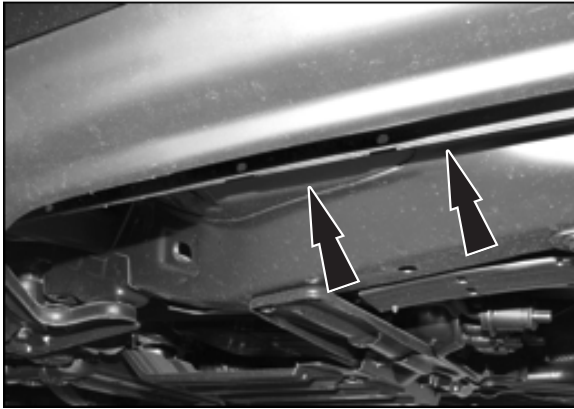
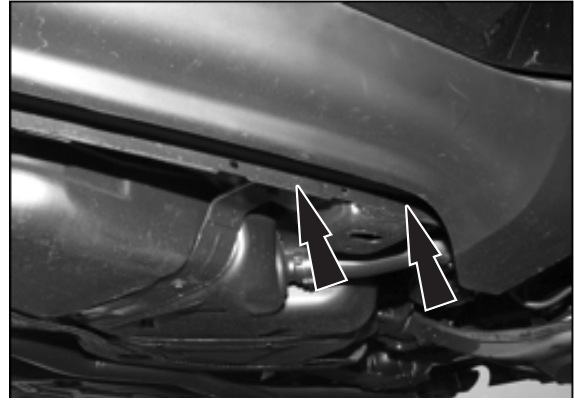

Fig. 1 Driver side front mounting location pictured.
Fig. 2 Driver side rear mounting location pictured.
Starting at the driver side, locate the (3) pairs of factory holes in the pinch weld. (Fig. 1 and Fig. 2)